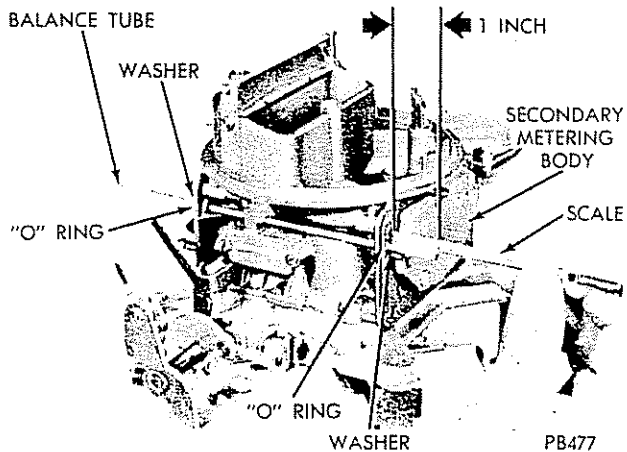

FIG. 39 — ADJUSTING BALANCE TUBE MODEL 4160
*CAUTION: Install new o-rings and washers at each end. Be sure O-rings and washers are seated in recesses on both primary and secondary side (Fig. 39); otherwise fuel leakage will occur.*
3. Position balance tube (if so equipped) so that only 1" extends beyond the secondary metering body (Fig. 39).